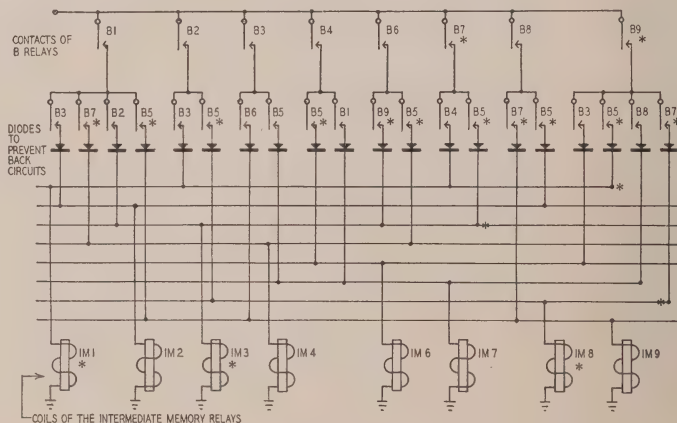

Fig. 5—The computing circuits which actually select the moves.
This is the situation which this circuit of the machine must handle. The circuit which performs this work is shown in Fig. 5. Here the B (branching-network) relays (B1 to B9), for which only contacts are shown, have received the information contained in the MM or PM relays, whichever are being ex-
Now let us look at Fig. 5 again. How is the position computed by the computing circuit? The machine (X) has played in squares 5, 7 and 9. Therefore this information energizes the B5, B7 and B9 relays and their contacts close. These contacts are marked with an asterisk in Fig. 5. If we trace through the circuit, we can see that the lines marked with the asterisk are "hot." Accordingly, the appropriate IM relays are energized. These are the IM1, IM3 and IM8 relays. Now at B time, as explained above, the IM1 and IM3 relays are cancelled because occupied and IM8 remains energized.